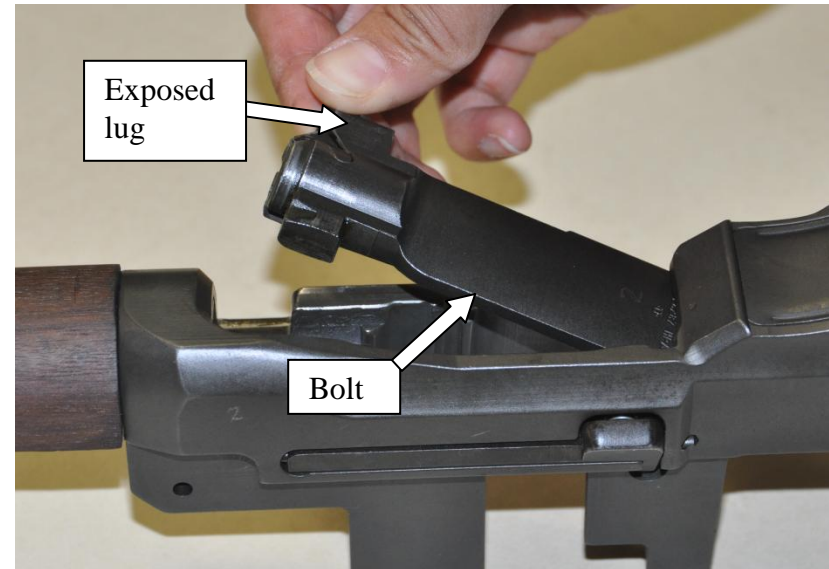

Figure 22. Bolt removal by exposed lug
- 6) From the shooter's perspective, grasp the bolt on the exposed lug and slide the bolt forward while lifting it upward and outward with a rotating motion (fig 22).